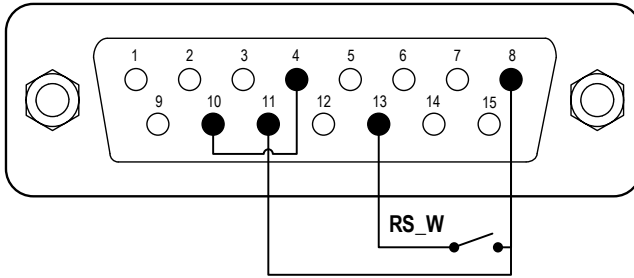
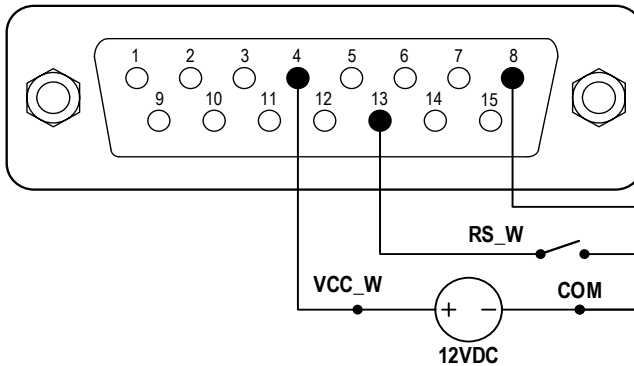

Figure 19. Footswitch with internal 12V Power Source
Figure 20. Footswitch with External 12V Power Source
- 1) Switch the power off. Wire the DB15 connector as shown on Figure 19 or Figure 20, and connect it to the DB15 port on the rear of the pump.